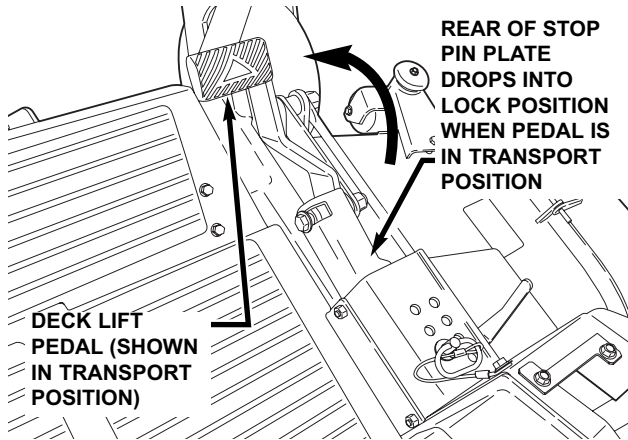

FIGURE 3.9
1. Depress deck lift pedal fully to lock deck in transport position. See Figure 3.9.